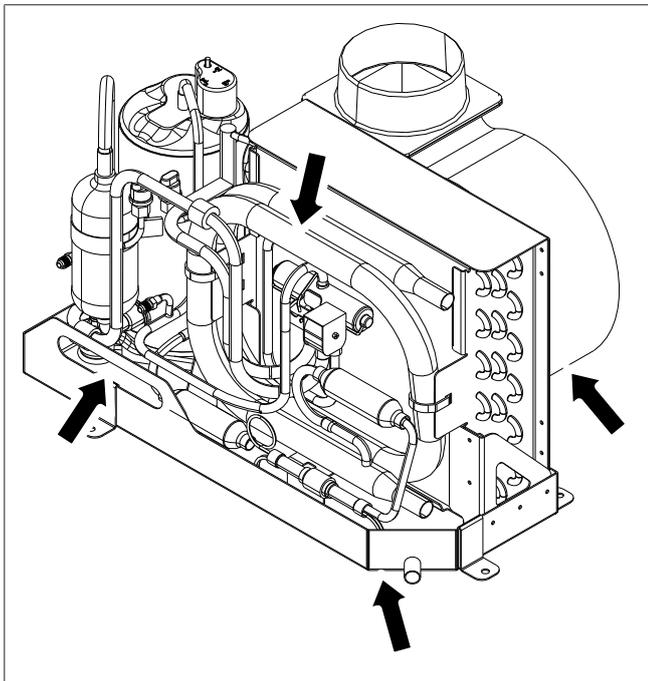

Fig. 7 Transport the unit
- ▶ Only carry the unit by the condensed-water tray, by the fan or by the upper pipe elbows of the condenser. Never grasp and carry the unit by other pipes. See Fig. 7.